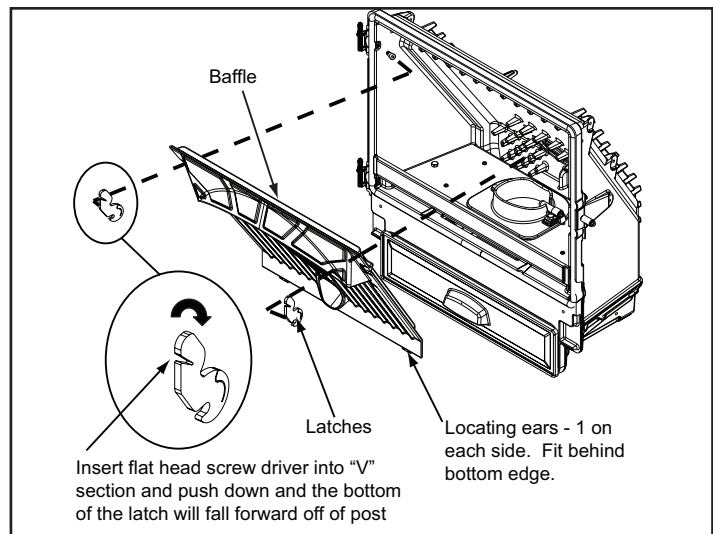

Figure 26.2
4. Remove baffle by placing a flat head screw driver into the slot of the latches located in the upper corners and rotate down. The bottom of the latch will fall forward off of the post. Lift the baffle up and then out toward you (**Figure 26.2**).